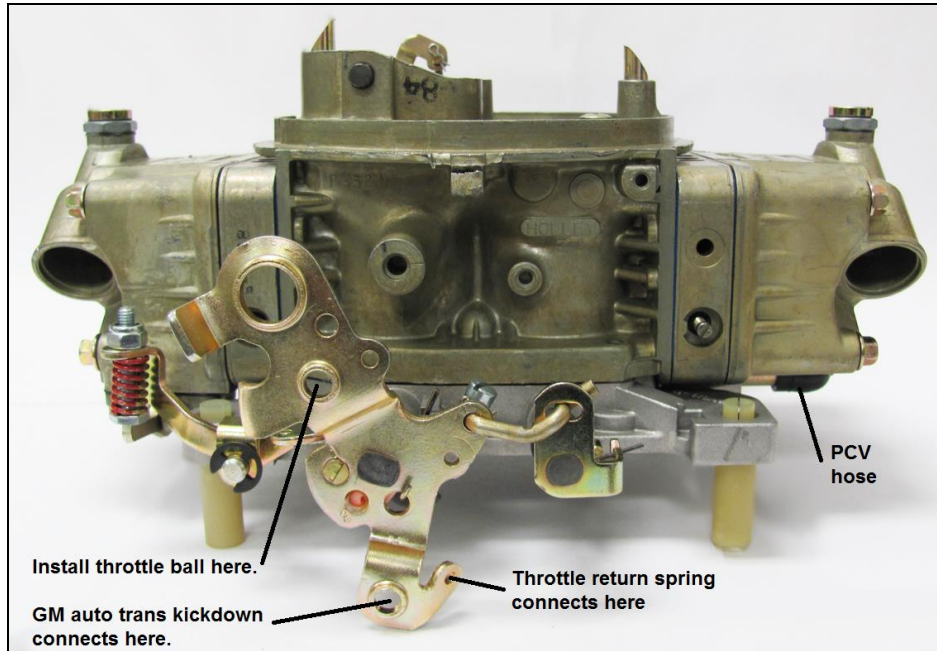
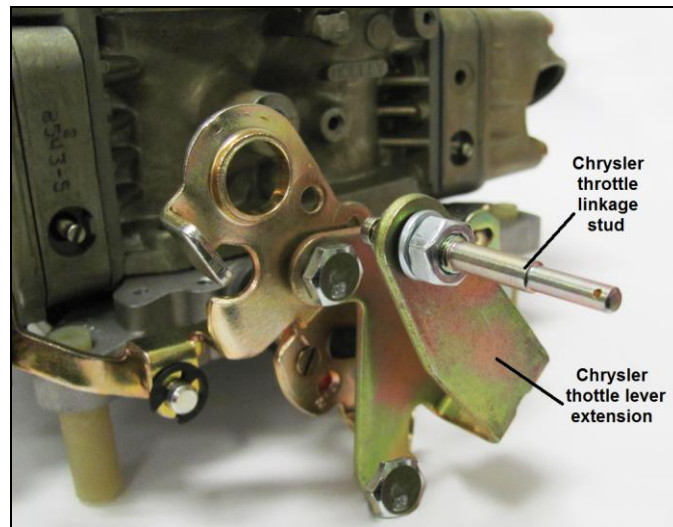

Figure 1
Figure 2
7. Install the throttle ball in the appropriate position on the throttle lever (Fig. 1). Some Chrysler applications may require a Chrysler throttle lever extension (Holley P/N 20-7) and Chrysler throttle linkage stud (20-67). These are installed in Fig. 2.
13. Reconnect the appropriate vacuum hoses noting the correct fitting from Figures 1, 3, and 4.